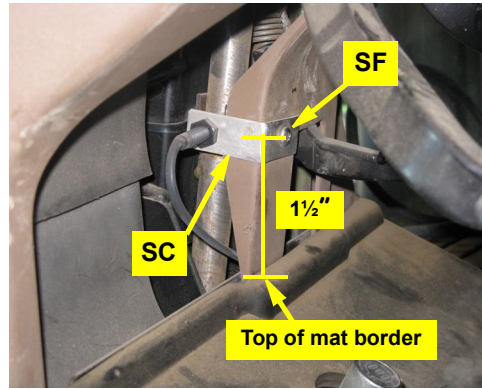

Figure 3: Installed sensor bracket and sensor
- b. Using self-tapping screw **SF** provided, attach sensor bracket **SC** to the plastic cover at the point you measured (Figure 3).